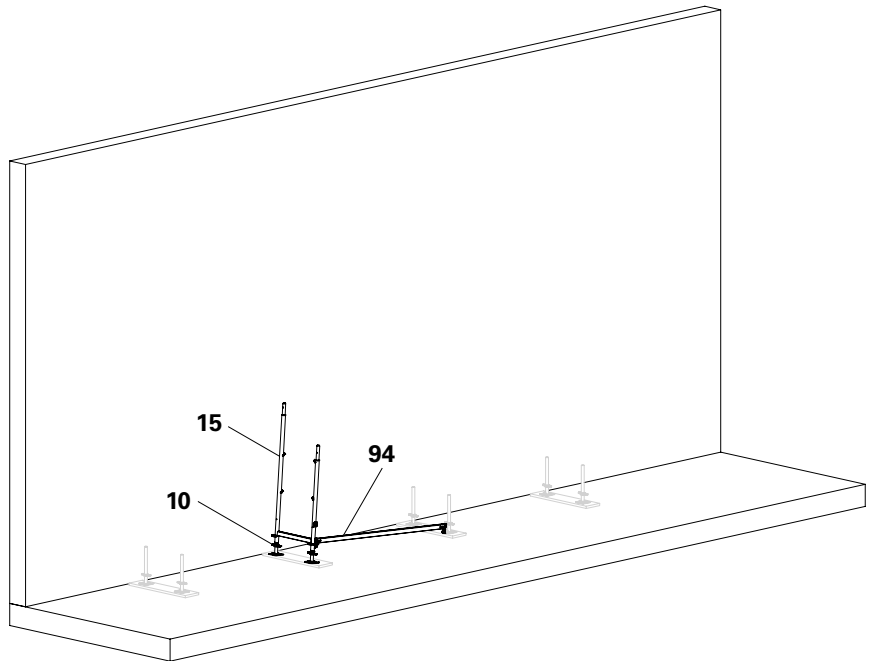

Fig. B2.02
1. Position Base Frame EVB (15) on the Base Spindles UJB (10). The short tube forms the outside of the scaffolding.
2. Secure with Horizontal Ledger UH-2 (94) to prevent it from falling over. (Fig. B2.02)
3. Position the second Base Frame EVB (15) and connect it using the Horizontal Ledger UH-2 (94).